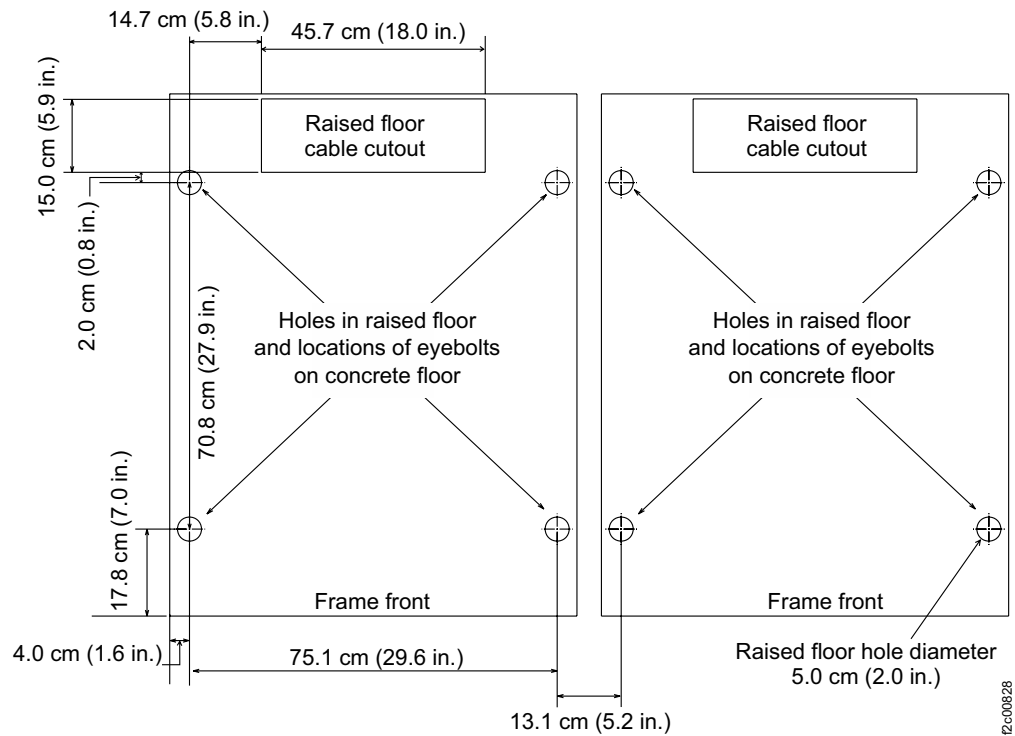

Figure 23. Locations for the cable cutouts and rubber bushing holes in the raised floor and the eyebolt installation on the concrete floor.
See Figure 23 on page 158 as a guide for the location and dimensions of these openings. The pattern repeats for up to four frames. Dimensions are in millimeters (inches).
- See Figure 23 on page 158 to determine the placement of the eyebolts. The eyebolts must be installed so that they are directly below the holes that you cut in the raised floor for the rubber bushings.